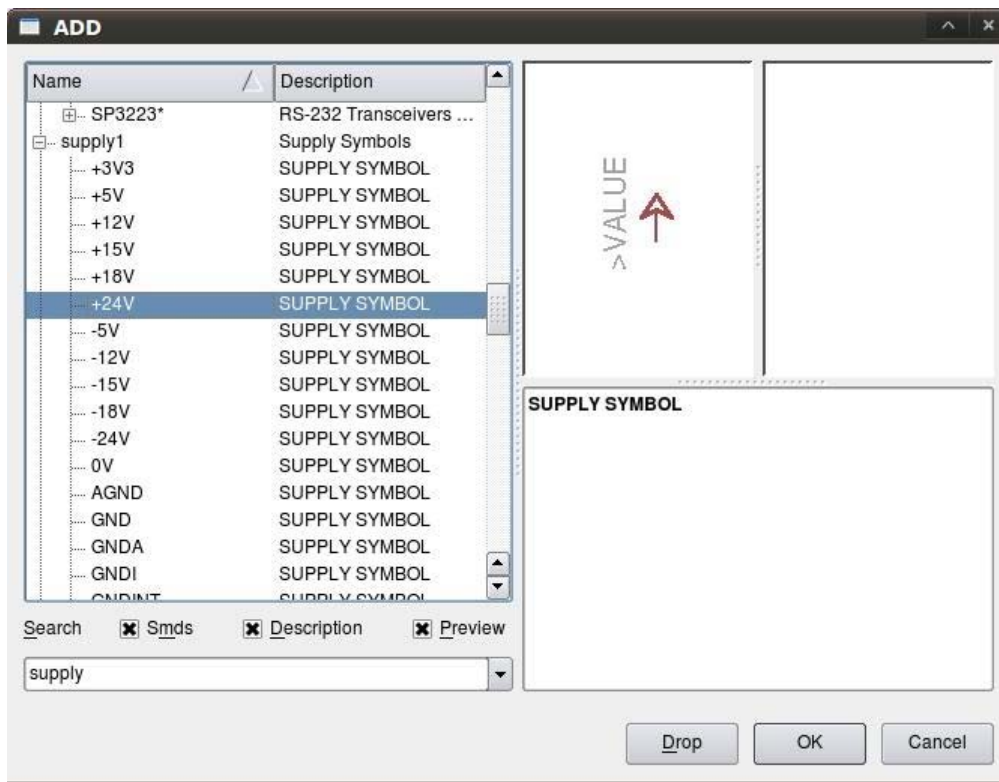

Figure 6-2. Adding supply symbols for +24v and GND
2. *Add supply symbols:* With the schematic editor open, select Edit > Add (see Figure 6-2). Type **supply** into the search bar and press Enter on your keyboard. Scroll down until you see the “+24v” symbol and select it, placing it on the schematic. Next select Add again and find the “GND” symbol, placing it on the schematic.